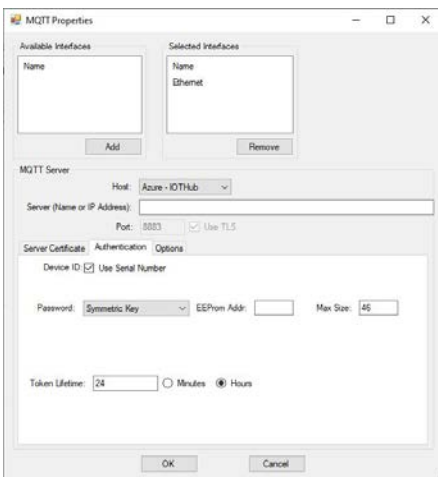

Figure 28-6B
c. The Authentication tab requires additional configuration. Refer to Figure 28-6B.